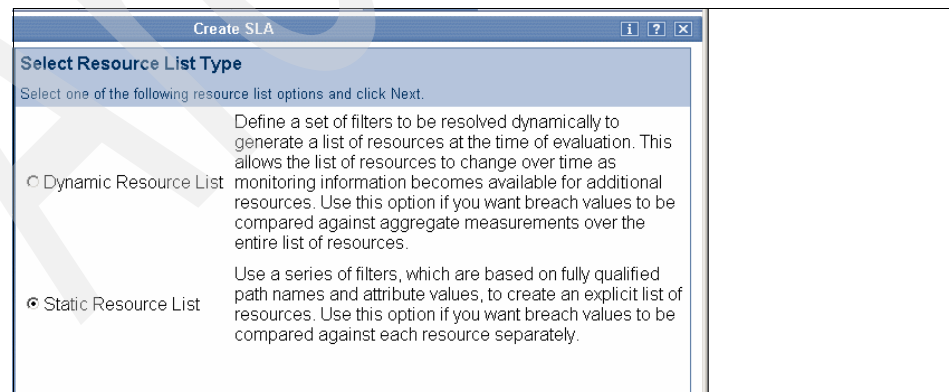

Figure 12-20 Selecting Resource List Types
7. In the Select Resource List Type panel (Figure 12-20), define the type of resources to add to the SLA. The Dynamic Resource List is used to group resources and create filter. Static resources are used for particular resources that are to be added. You might want to use dynamic resource list, for constantly changing environments. Click **Next**.